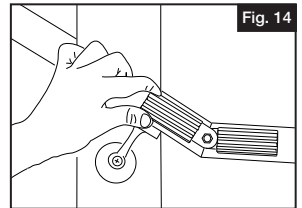

Fig. 14
2. Position the adjustable joiner on the outside of the Handrail and tighten the bolt at the appropriate angle (Fig. 14).